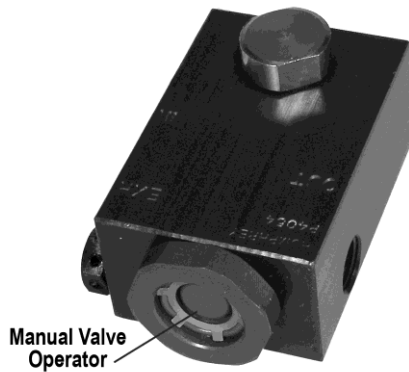

Figure 3 – DVO manual valve operator
9. Insert the new DVO into the body. The DVO manual valve operator must face away from the vessel. See **Figure 3**.